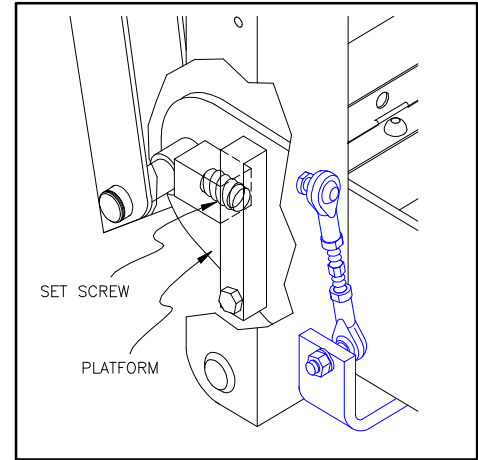

FIGURE 2-19: PLATFORM SET SCREWS
- b. Refer to **Figure 2-19**. Adjust left/right platform set screws until platform is level at zero (0) degrees. Turn set screws clockwise to angle front-end of platform upward, or counter-clockwise to angle front-end of platform downward.